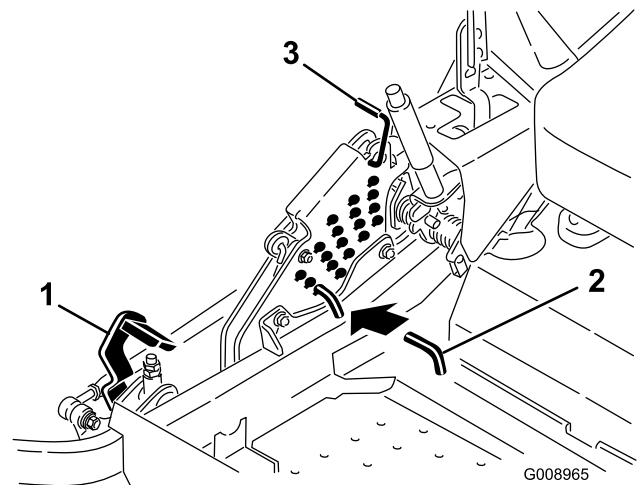

Figure 82
5. Push the deck lift pedal all the way forward and the deck will latch at the 5 1/2 inch (14 cm) transport position (Figure 82).